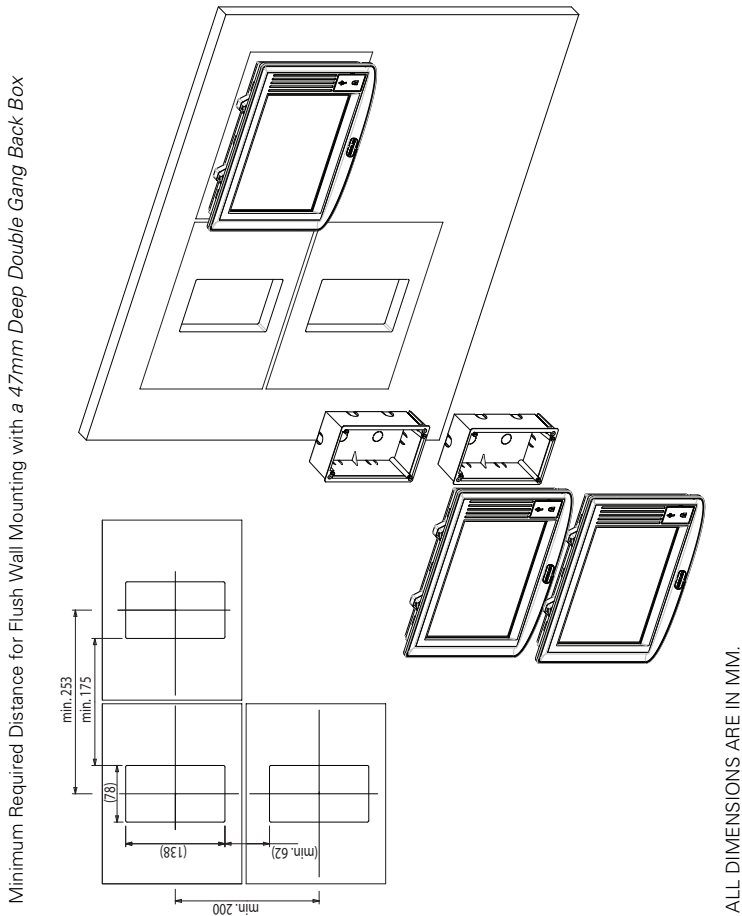

Fig. 7: Compact Network Repeater and Zonal Display - Flush Wall Mounting with a 47mm Deep Double Gang Back Box
- 4 Lead the cables through the shallow back cover (1) and mount it to a 47mm deep double gang back box prepared in the wall. Refer to Fig. 7 for mounting dimensions.
- 5 Plug one end of the patch cable (8) into the DC power terminal block (2) and plug the other end into the compact network repeater.
- 7 Connect the Ethernet cable (3) to the com-
Figure 7 illustrates how to 'wall mount' the compact network repeater and the zonal display in a vertical or horizontal position with the required dimensions.